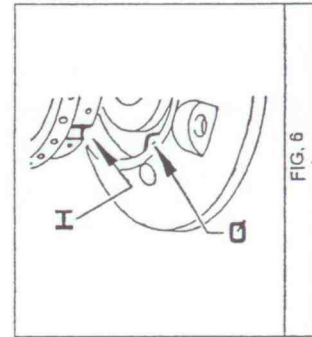

FIG. 6
- Before refitting flame rings "N", it is essential to check that the holes have not become clogged by foreign bodies and that stop notch "H" on the flame ring, has been correctly positioned on lip "Q" (see fig. 6).